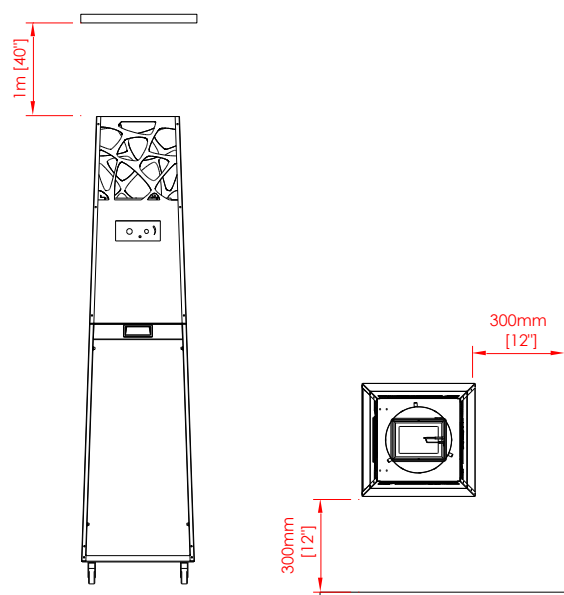

Fig 2 – Minimum distances
- This appliance must be kept away from flammable materials during use. Do not place any combustible materials within a distance of 0,3 m (12") of PYRAMID and 1 m (40") over the appliance (*Fig 2*).